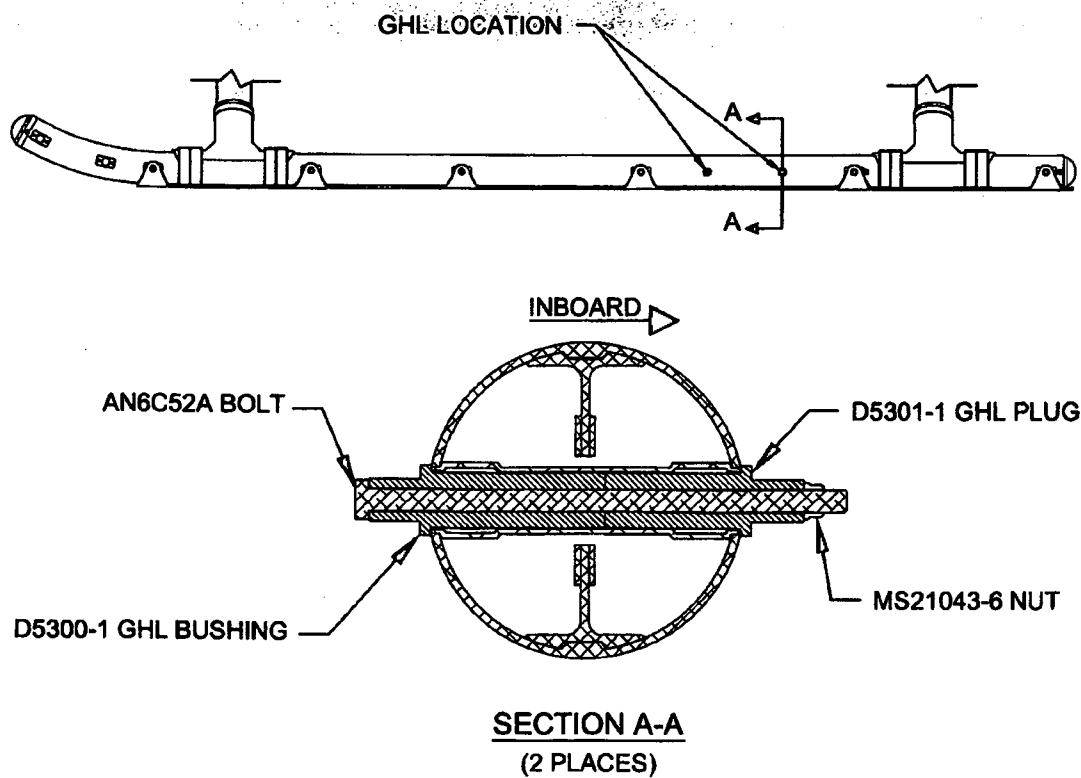

FIGURE 1 - GHL UPGRADE INSTALLATION
- 2.2 Loosely install (qty 2) D5300-1 GHL Bushing & (qty 2) D5301-1 GHL Plug wet with Proseal 890 or MIL-S-8802 Class B2 Sealant in location shown in Figure 1.
- 2.3 Install AN6C52A Bolts and (qty 2) MS21043-6 Nuts in accordance with Figure 1. Clean up squeezed out Proseal and apply fillet seal around D5300-1 & D5301-1.